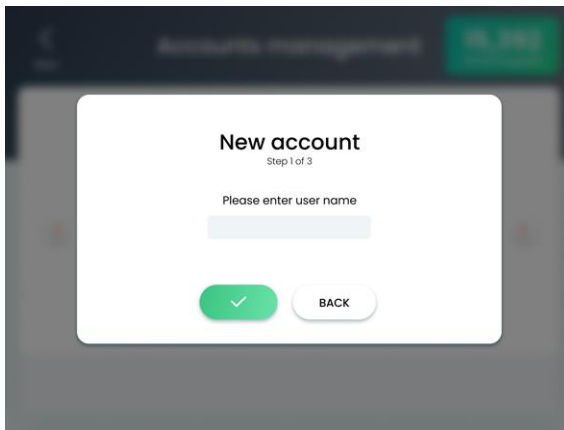

Figure 6-2. New Account (Step 1 of 3) Screen
2. In the Accounts screen, tap the **+ New Account** button; the New Account (Step 1 of 3) screen appears, as shown in Figure 6-2.